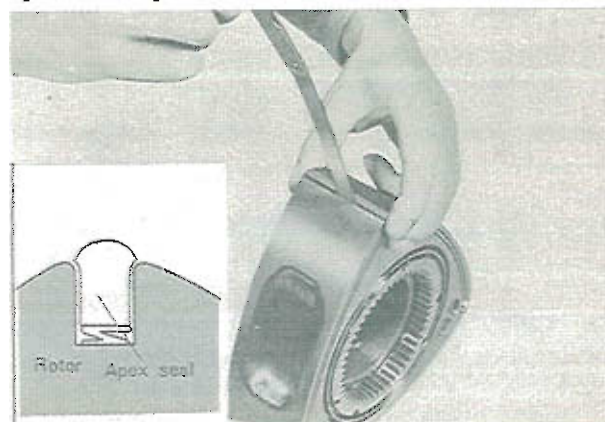

Fig. 1-70 Checking gap of apex seal and groove
- 4. Check the gap between the apex seal and the groove. To check the gap, place the apex seal in its respective groove on the rotor and measure the gap between the apex seal and the groove with a feeler gauge. As shown in Fig. 1-70, the apex seal tends to wear unevenly and for this reason the feeler gauge should be inserted until the tip of the gauge reaches the bottom of the groove. If the gap is more than 0.1 mm (0.004 in), replace the apex seal.